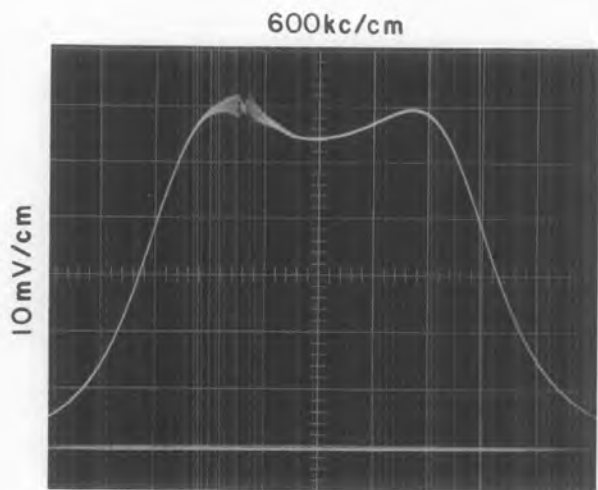
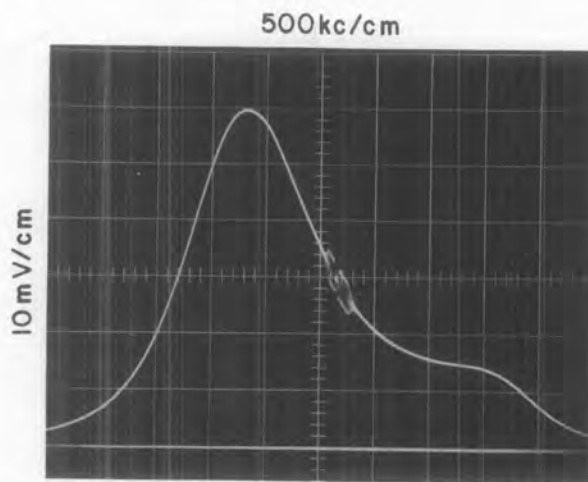
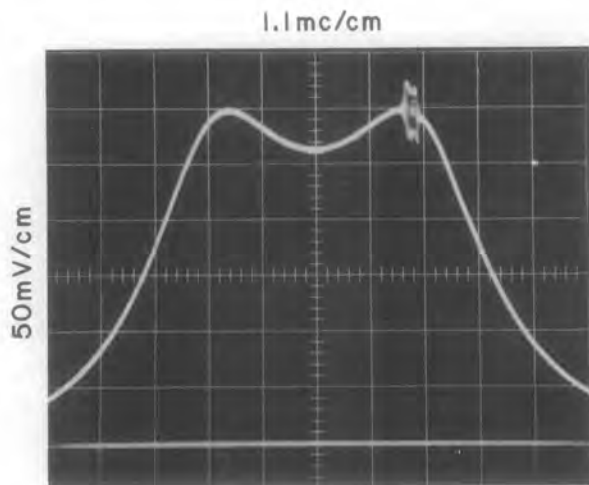
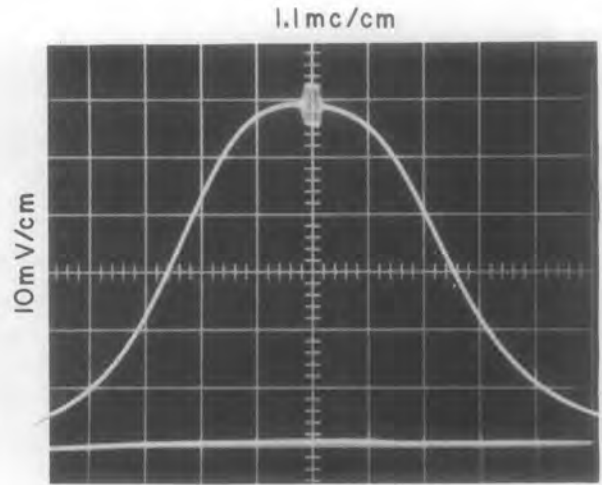

Figure 4-24. Typical Response, 60-300 mc Tuner Interstage/RF Stage, 100 mc Response
Figure 4-25. Typical Response, 60-300 mc Tuner Interstage, 60 mc Response
Figure 4-26. Typical Response, 60-300 mc Tuner Interstage, 200 mc Response
Figure 4-27. Typical Response, 60-300 mc Tuner Interstage, 300 mc Response
- (4) Set the signal generator frequency to 21.4 mc; set the level for a convenient marker.
- (5) Set the receiver controls as follows:
- (6) Set the 60-300 MC dial to 100.
- (7) Readjust the sweep generator controls for a convenient marker and response display.
- (8) Adjust C11 and C18 for an overcoupled response with the marker as shown in Figure 4-24.
- (9) Tune the 60-300 MC dial to 60.
- (10) Set the sweep generator controls to sweep 60 mc so that the marker and the response are displayed on the oscilloscope
- (11) Adjust C15 for a response similar to Figure 4-25 with the marker positioned as shown. This capacitor should not require readjustment.
- (12) Repeat steps (6) through (8). Then continue with step (13).
- (13) Set the 60-300 MC dial to 200.
- (14) Note the marker position. It should be positioned as shown in Figure 4-26. If it is not, the response must be shifted to place the marker as shown. Note the direction the RESPONSE must move. Then proceed to step (15) for the procedure to move the response.
- (15) Set the 60-300 MC dial to 100.
- (16) Readjust the controls of the sweep generator to display the marker and the waveform on the oscilloscope.
- (17) Adjust C11 and C18 to shift the response a slight amount in the direction required by step (14).
- (18) Repeat steps (13) through (17) until the 200 mc response appears as in Figure 4-26 with the marker in the position shown.
- (19) Set the 60-300 MC dial to 300.
- (20) Readjust the sweep generator controls to display the marker and the response on the oscilloscope.
- (21) Compare the response with that shown in Figure 4-27. Read the three conditions listed in this step. Then proceed to step (22).
- (22) Set the 60-300 MC dial to 100.
- (23) Readjust the controls of the sweep generator to display the marker and the response on the oscilloscope.
- (24) Note the response and the marker position.
- (25) Adjust L6 a slight amount for the inductance change determined in step (21) and note the shift in the response.
- (26) Adjust C11 to return the response to the condition noted in step (24).
- (27) Set the 60-300 MC dial to 300.
- (28) Readjust the controls of the sweep generator to display the marker and the response on the oscilloscope.
- (29) Note the response. It should now resemble Figure 4-27 more closely than in previous steps.
- (30) Repeat steps (21) through (29) to improve the response.
- (31) For step (32) set the 60-300 MC dial to 300 and readjust the controls of the sweep generator to display the marker and the response on the oscilloscope.
- (32) Compare the response with that shown in Figure 4-27. Read the three conditions listed in this step. Then proceed to step (33) to adjust L8.
- (33) Set the 60-300 MC dial to 100.